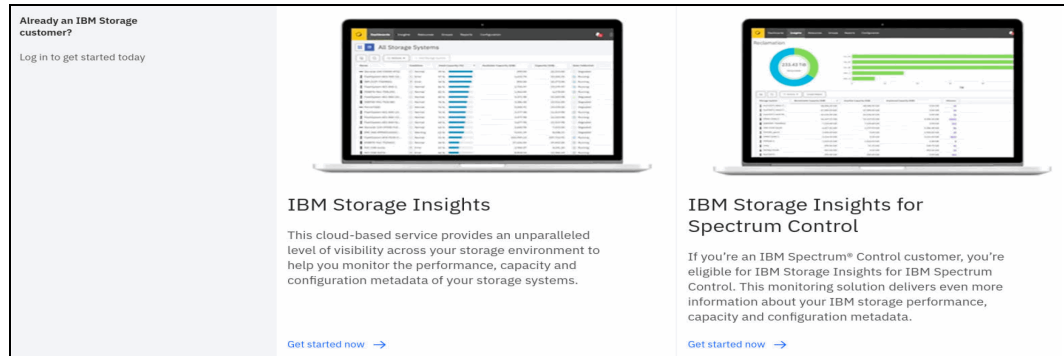

Figure 9-23 IBM Storage Insights or IBM Storage Insights for IBM Spectrum Control registration options
1. Figure 9-23 on page 577 shows the registration options. Select whether you want to register for IBM Storage Insights or IBM Storage Insights for IBM Spectrum Control. For more information about the differences of the IBM Storage Insights software, see "" on page 573.